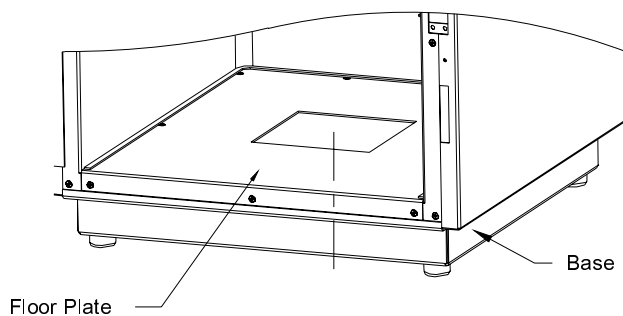

Figure 6-16
The optional camera and its components are located in the base of the MX-20. See Figures 6-16 and 6-17. Only the camera power board needs adjustments. Different cameras from three manufacturers according to System Description in Section 1 are used. To check and adjust the camera power board, proceed as follows:
2. Open the door and locate the floor plate as shown in Figure 6-16. Remove screws holding the floor plate to the base.